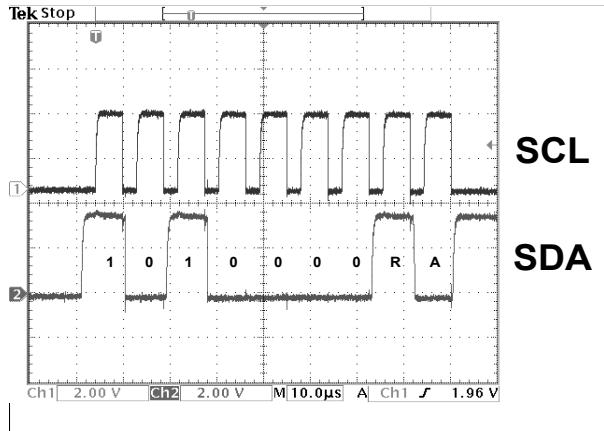

Figure 26. Slave Address + READ
4.6. MRSLA State – Master Receiver Slave Address Sent – Interrupt (4)
Figure 26 shows the Slave Address (0xA0) + READ (1) being sent from the Master to the Slave. During the last SCK cycle, the Slave ACK's the transfer and prepares to drive the bus during the next 8 SCK cycles.